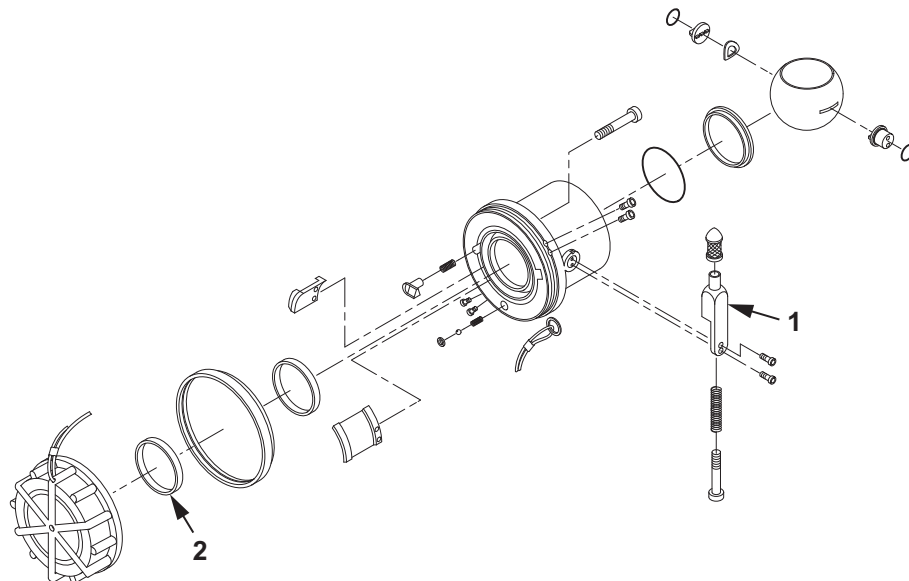

Figure 6. Valved Dry-Break Coupling Testing.
2. While the couplings are connected, rotate control arm (Figure 6, Item 1) to the open position and try to disconnect the couplings by rotating in a counterclockwise direction. If the couplings disconnect, repair of the dry-break valved coupling assembly is required.
3. Close the control arm (Figure 6, Item 1) and disconnect the valved dry-break coupling assemblies by rotating the couplings in a counterclockwise direction.
6. With the control arm (Figure 6, Item 1) in the open position, apply pressure of 5 PSI (34.47 kPa) to the repaired valved dry-break coupling assembly.
10. Close the control arm (Figure 6, Item 1) and disconnect the repaired valved dry-break coupling assembly from the similar valved dry-break coupling assembly by rotating the couplings in a counterclockwise direction.
12. With the control arm (Figure 6, Item 1) in the closed position, apply pressure of 5 PSI (34.47 kPa) to the repaired valved dry-break coupling assembly.
15. Reduce pressure from the test system, remove repaired valved dry-break coupling assembly from the test system and install dust cap (Figure 6, Item 2).